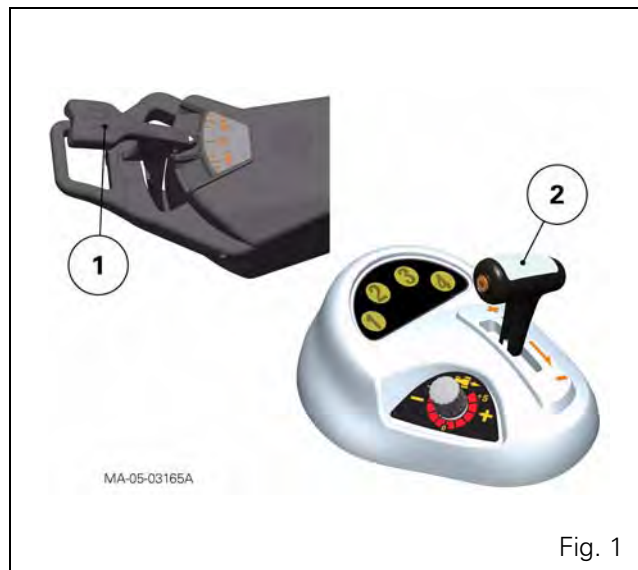

Fig. 1
- Powercontrol lever located under the steering wheel (1 Fig. 1)
- gear shift lever located on the armrest (2 Fig. 1).